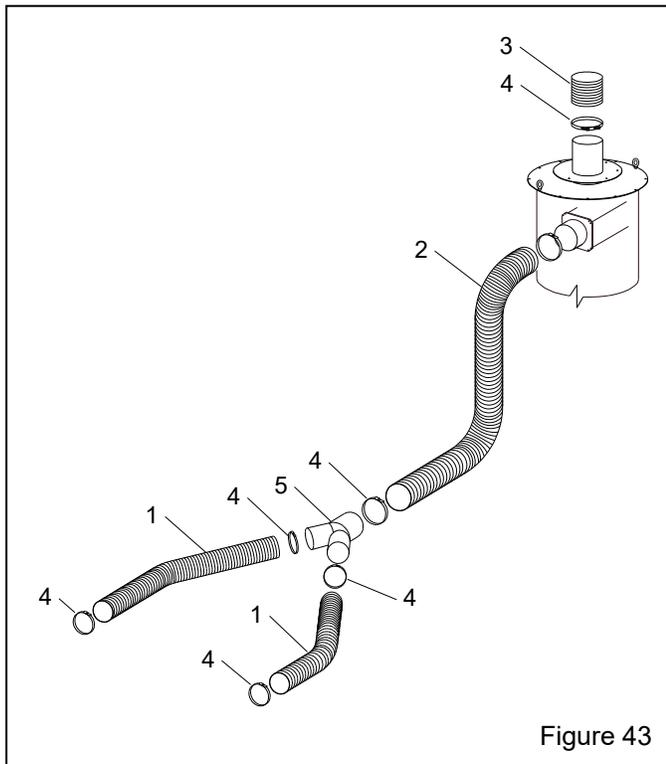

Figure 43
**9.13 Flex Hose and Wye Adaptor – Figure 43**